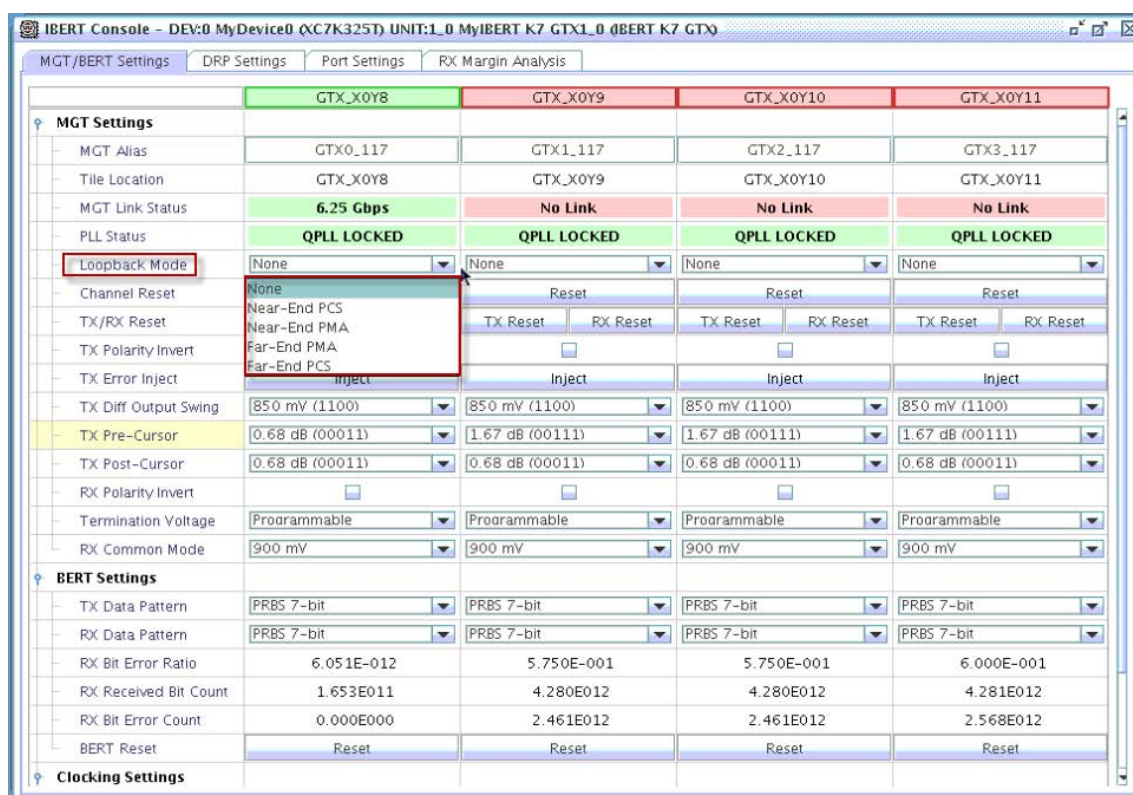

Figure 5: IBERT Console Window for Kintex-7 FPGA GTX Transceivers
4. With initial settings on the loopback modes, the interactive IBERT Console window appears, as shown in Figure 5.